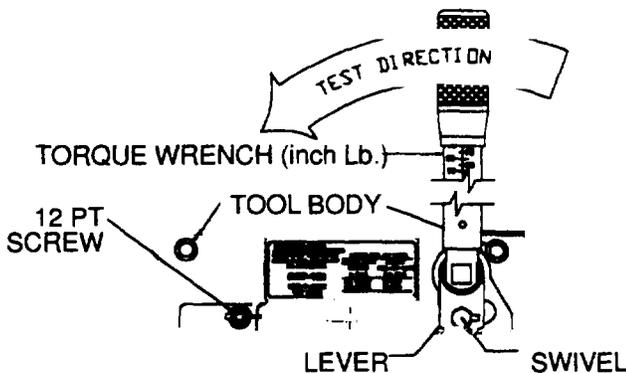

Figure 2-100. Calibration test Fixture and Torque Wrench
(1) Use of the calibration test fixture and torque wrench to verify safety cable tool indenter adjustment (see figure 2-100). Thread the safety cable into the 12 pt. screw and through the swivel, holding the lever against the built-in-stop. If the lever is not kept against the stop, the results may be adversely affected. Terminate the safety cable with the tool being tested.
(2) Apply approximately 2 lbs force to the cable with your finger at the line marked "test area". If the cable touches either the side or bottom surface of the test fixture, remove the cable from the test block, and re-install another safety cable being careful to set the tool tension properly, and to hold the lever against the stop.
(3) Place a calibrated 3/8 inch drive torque wrench (capable of indicating 30 inch/lb. for 0.020 inch safety cable, 70 inch/lb. for 0.032 inch safety cable and 110 inch/lb. for 0.040 inch safety cable) into the square drive hole, orienting the test block and torque wrench on a flat surface. Do not over torque the cable.